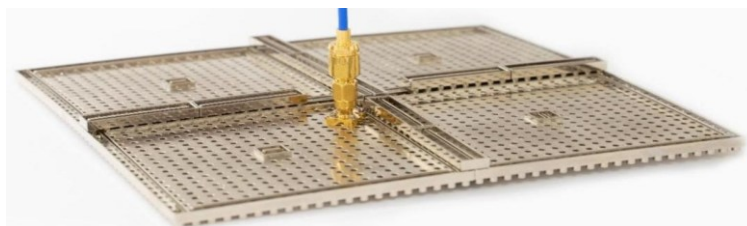

Figure 14 Connection to the connector at the ground plane of the AMHA
18. Connect the cable to the connector at the ground plane of the AMHA as shown in Figure 14.